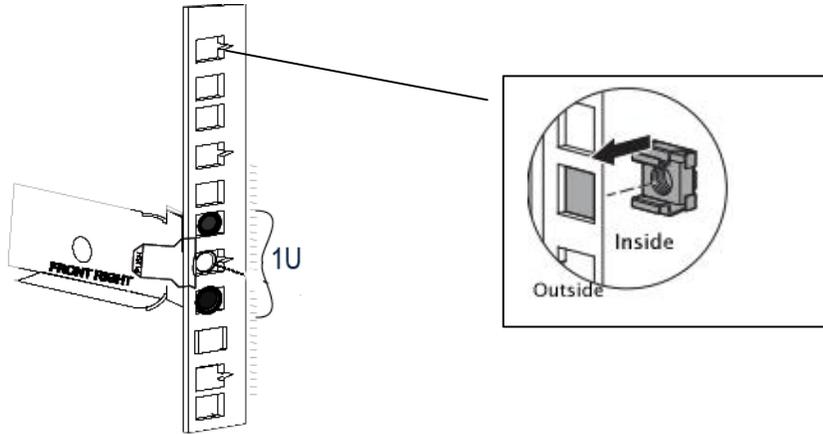

Figure 2: Attach the cage nuts to the rack columns
- Place the cage nuts 6 holes (or 2U space from the centerline of the rail) above and snap it into the square holes of the front columns. These cage nuts will be used to attach the ES NAS to the rack later (Figure 2).